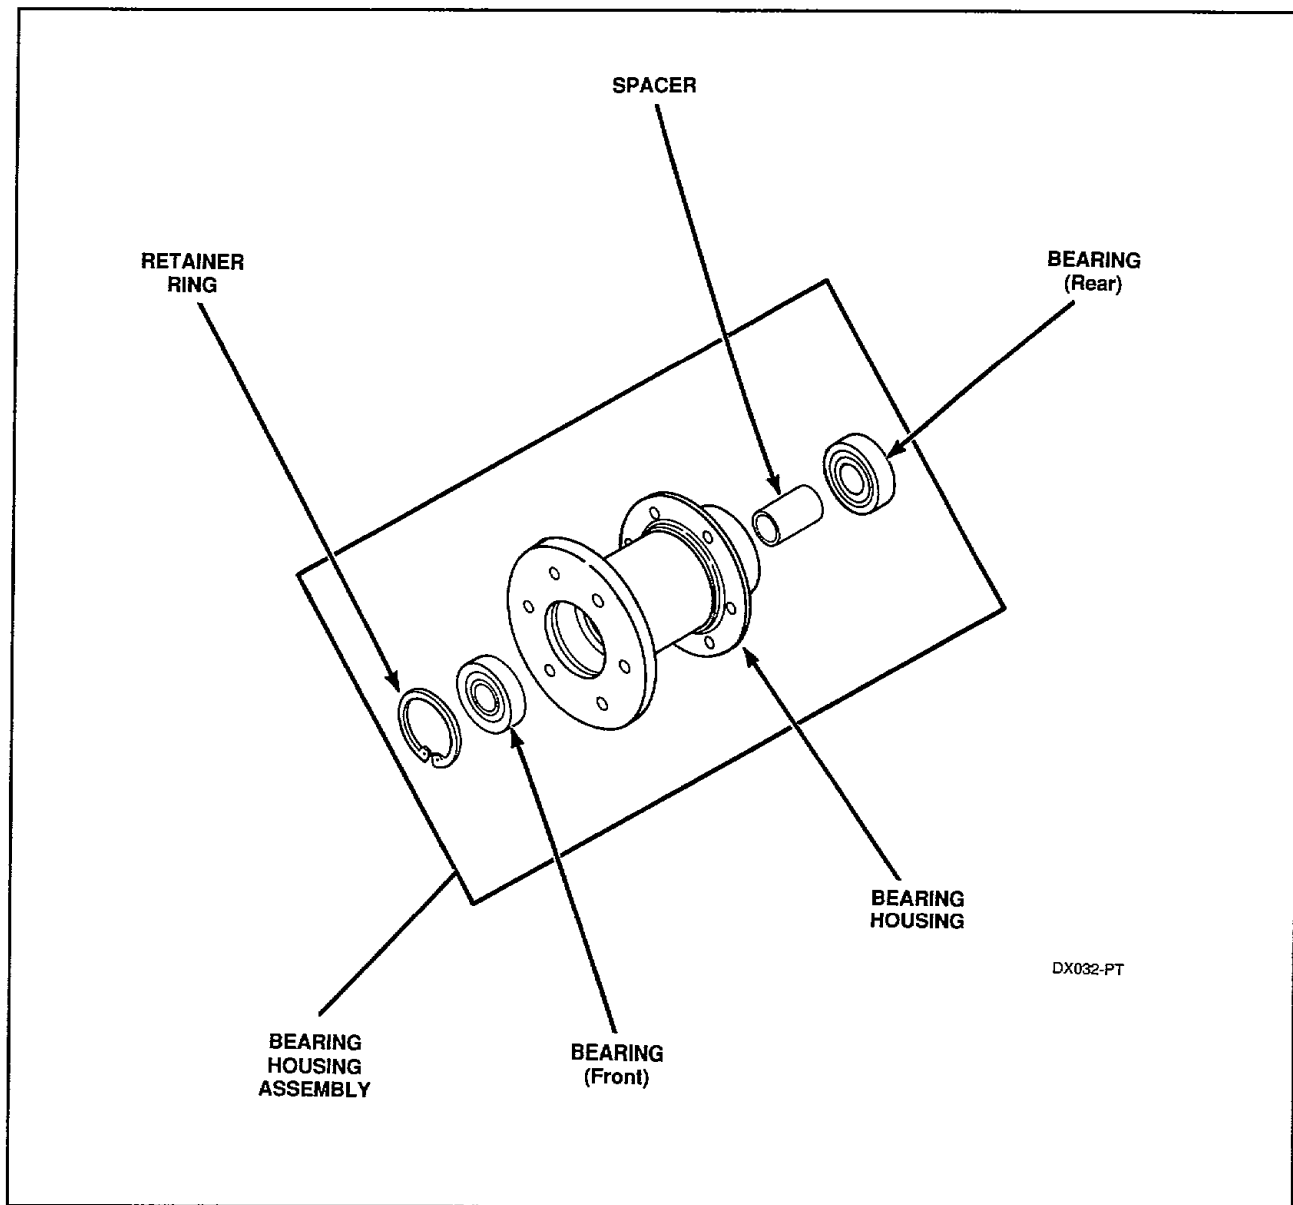

Figure 27
NOTE: Bearings are a press fit in the bearing housing and can be driven out of the housing using a hammer and a piece of hardwood dowel or a punch. The front bearing is held in place by a retainer ring which must be removed first before attempting to remove the front bearing, *Figure 27*.
- Remove tools from bearing housing and install the retainer ring in front of the front bearing in the bearing housing, *Figure 27*.